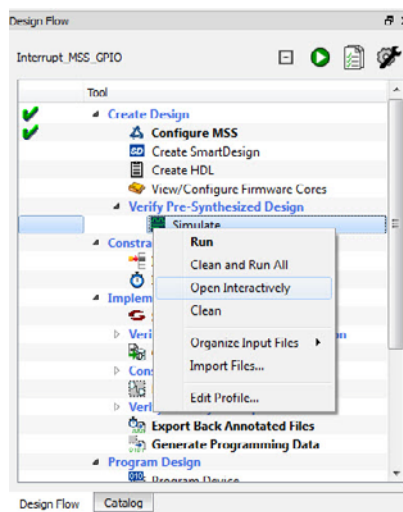

Figure 4-5 • Invoking ModelSim
7. In the Design Flow window, expand Verify Pre-Synthesized Design and right-click **Simulate** and choose **Open Interactively** to launch ModelSim in GUI mode (Figure 4-5).